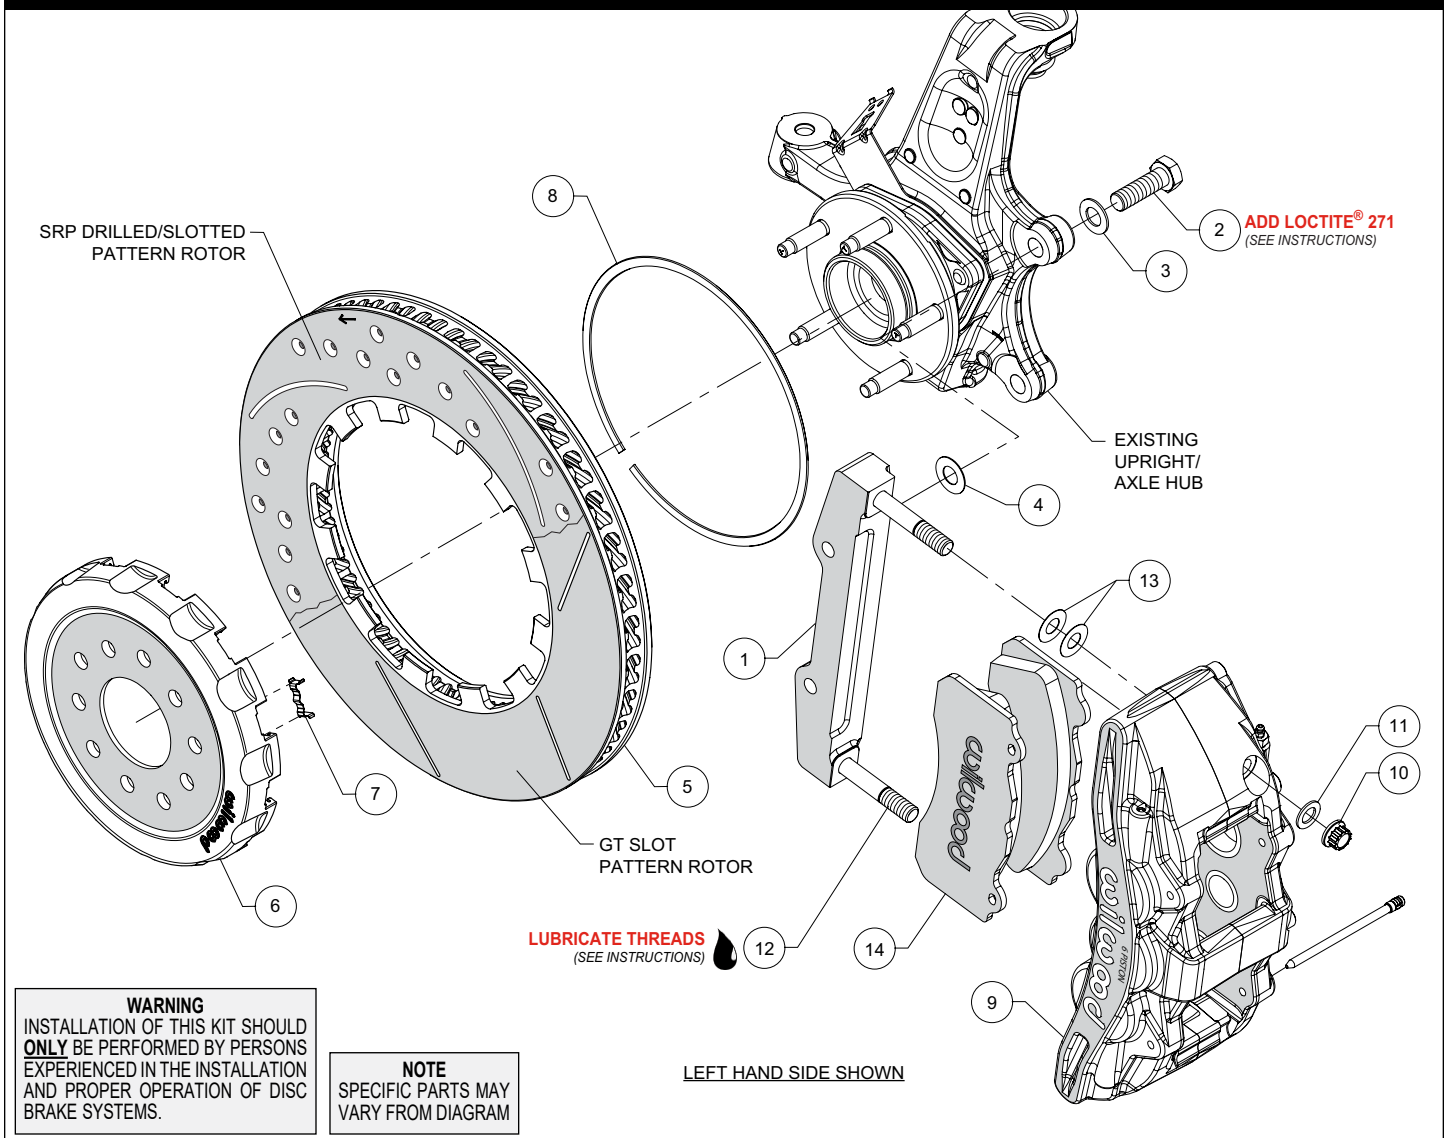

Figure 1. Typical Installation Configuration
**NOTE:** Numbers in parenthesis refer to the parts list and Figure 1 on the preceding pages.
- The caliper mount bracket (1) should initially be installed with clean, dry threads on the mounting bolts. Orient the bracket, as shown in Figure 1 and Photo 1, and install using bolts (2) and washers (3). Initially place one .029" thick shim (4) on each bolt between the bracket and upright, Figure 1. Temporarily tighten the mounting bolts. **NOTE:** The bracket must fit squarely against the mount bosses on the upright. Inspect for interference from casting irregularities, machining ridges, burrs, etc. Later, after the caliper alignment has been checked, the mount bolts will be secured using red Loctite® 271.
- Insert the dynamic mount wear clips (7) into the slots in the hat (6), Photo 2. Orient the rotor (5) as shown in Figure 1 and Photo 3, with the flush side of mount lugs facing the hat. Secure the rotor to the hat using the snap ring (8) by simultaneously pushing down on the rotor and installing the ring into the groove in the hat, as shown in Photo 4. Carefully inspect snap ring to ensure complete engagement in the groove.
- NOTE:** This kit contains distinct right and left hand calipers that must be mounted in a specific direction, as described below. Lubricate the caliper mounting studs (12) with lightweight oil. Initially place two .015" thick shims (13) on each stud between the caliper and the bracket, as shown in Figure 1 and Photo 6. Mount the caliper (9) onto the bracket (1) using lock nuts (10) and washers (11), Figure 1. Temporarily tighten the lock nuts. Ensure that the caliper is mounted so the largest pistons are at the rotor exit end of the caliper, in relation to the forward direction of the rotor. View the rotor through the top opening of the caliper. The rotor should be centered in the caliper, Photo 7. If not, adjust by adding or subtracting shims (4) between the bracket and the upright. Always use the same amount of shims on each of the two mounting bolts. Once the caliper alignment is correct, remove the bracket mounting bolts (2) one at a time, apply red Loctite® 271 to the threads, and torque to 77 ft-lbs.
- Remove the two pad retaining pins from the caliper (9) by pushing out the pins from the tapered end using a blunt instrument. Insert the brake pads (14) into the caliper from the bottom, Figure 1 and Photo 8. With the friction material facing the rotor, secure the brake pads in place with the pad retaining pins, Photo 9. Reinstall the caliper onto the caliper mounting bracket and temporarily tighten the lock nuts. Check that the top of the brake pad is flush with the outside diameter of the rotor, Photo 10. If not, adjust by adding or subtracting shims (13) between the caliper and the bracket. After the caliper pad height is set, torque the caliper lock nuts (10) to 65 ft-lb.